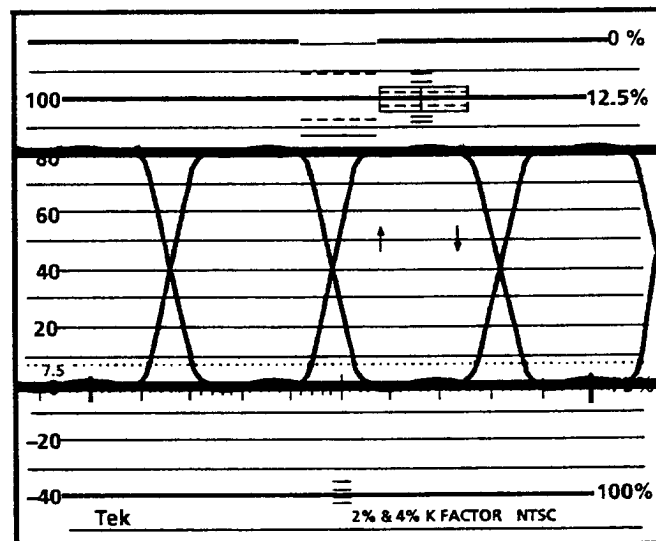

Figure 6–13: Normal Eye pattern display
- d. Check that the Eye pattern is overlaid. See Figure 6–13.